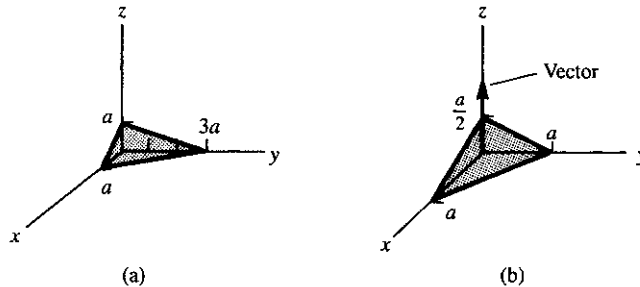

Figure P1.6
- (c)/(d) Repeat parts (a) and (b), this time taking the surface of the Si wafer to be a (110) plane.
- (e) Primarily for practice in utilizing MATLAB, construct a MATLAB program that computes the surface density of atoms on (100) planes of cubic crystals. The number of atoms with centers on the (100) face of the unit cell, and the lattice constant in \AA , are to be the input variables. Confirm the result obtained manually in part (b).
- (a) As shown in Fig. P1.6(a), a crystalline plane has intercepts of $1a$, $3a$, and $1a$ on the x , y , and z axes, respectively. a is the cubic cell side length.
- (b) Assuming the crystal structure to be cubic, determine the Miller indices for (i) the plane and (ii) the vector pictured in Fig. P1.6(b).